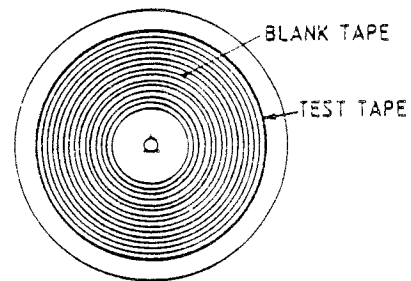

Fig. 7-2 Test Tape Loading
A flutter test tape is used for measuring tape speed. Since tape tension affects tape speed, it is important for accurate measurement that the flutter test tape used is attached to the end of a full reel of blank tape as shown in Fig. 7-2, and is used with the REEL push-button set to the appropriate reel size. Proceed as follows:
- (1) Place the PITCH CONTROL in the fixed position and set all RECORD switches to their off "out" positions.
- (2) Connect a flutter meter to LINE OUT and set the MONITOR switch to the TAPE position.
- (3) Set the SPEED switch to "HIGH" and use the test tape at its appropriate speed.
- (4) Attach the test tape to a 10-1/2 inch NAB reel as shown in Fig. 7-2, place the test tape on the supply reel table, thread the tape, and set the REEL switch to the LARGE position.
- (5) Place the recorder in the play mode and note the reading on the frequency counter. The reading should be between 2994 and 3006 Hz (3000 Hz \pm 0.2 %).
- (6) Repeat the procedure at a point towards the end of the reel, for a 7 inch EIA reel, and for low tape speeds.
- (7) If adjustment is necessary, refer to Section 6.4.
It is important that the flutter test tape used is attached to the end of a full reel of blank tape as shown in Fig. 7-2, and is used with the REEL push-button set to the appropriate reel size.
- (1) Place the PITCH CONTROL to the fixed position and set all RECORD switches to the off "out" position.
- (2) Connect a flutter meter to the LINE OUT of the inner track channel and its MONITOR switch should be in the TAPE position.
- (3) Set the selector switch of the flutter meter to the NAB weighted position, set the SPEED switch to H1, and use the test tape at an appropriate speed.
- (4) Attach the test tape to a 10-1/2 inch NAB reel as shown in Fig. 7-2, place the test tape on the supply reel table, thread the tape, and set the REEL switch to the H position.
- (5) Place the recorder in the play mode and note the reading on the flutter meter. The reading should be as shown in Table 7-3.
- (6) Repeat the procedure at a point towards the end of the reel, a 7 inch EIA reel, and at low tape speeds.